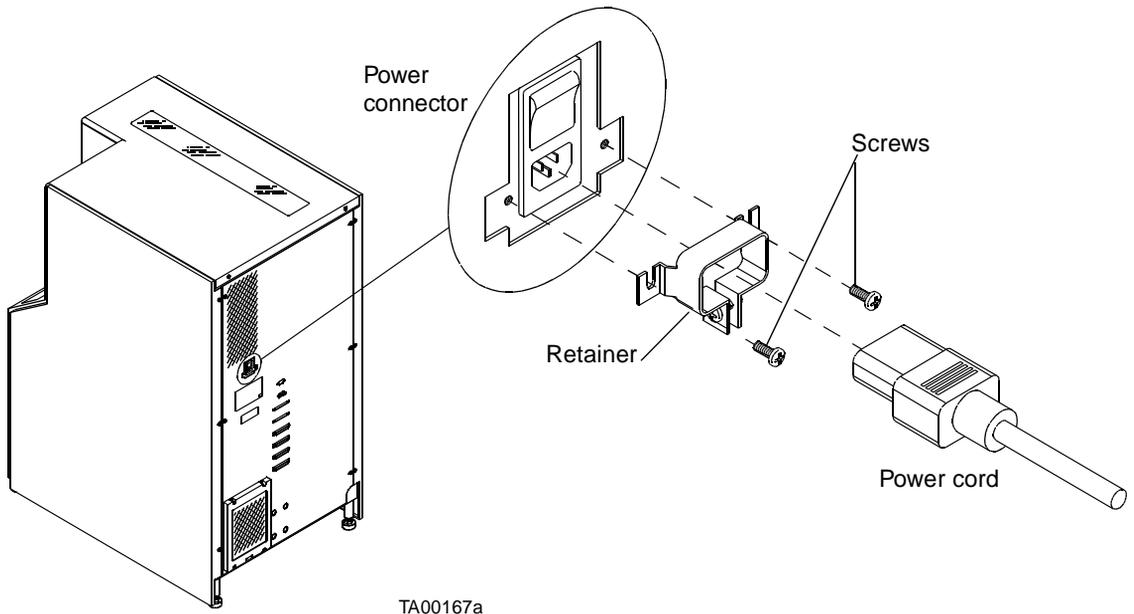

FIGURE 2-12 Removing the Power Cord Retainer
2. Remove the two screws securing the power cord retainer to the rear of the library and set them aside (FIGURE 2-12).